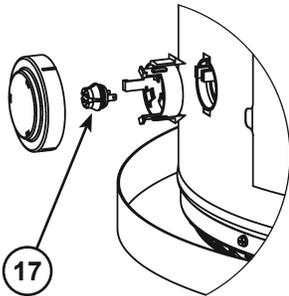

Figure 48
- 17 Flammable Vapour Sensor (under cover) (see Figure 8) (see also Figure 48)